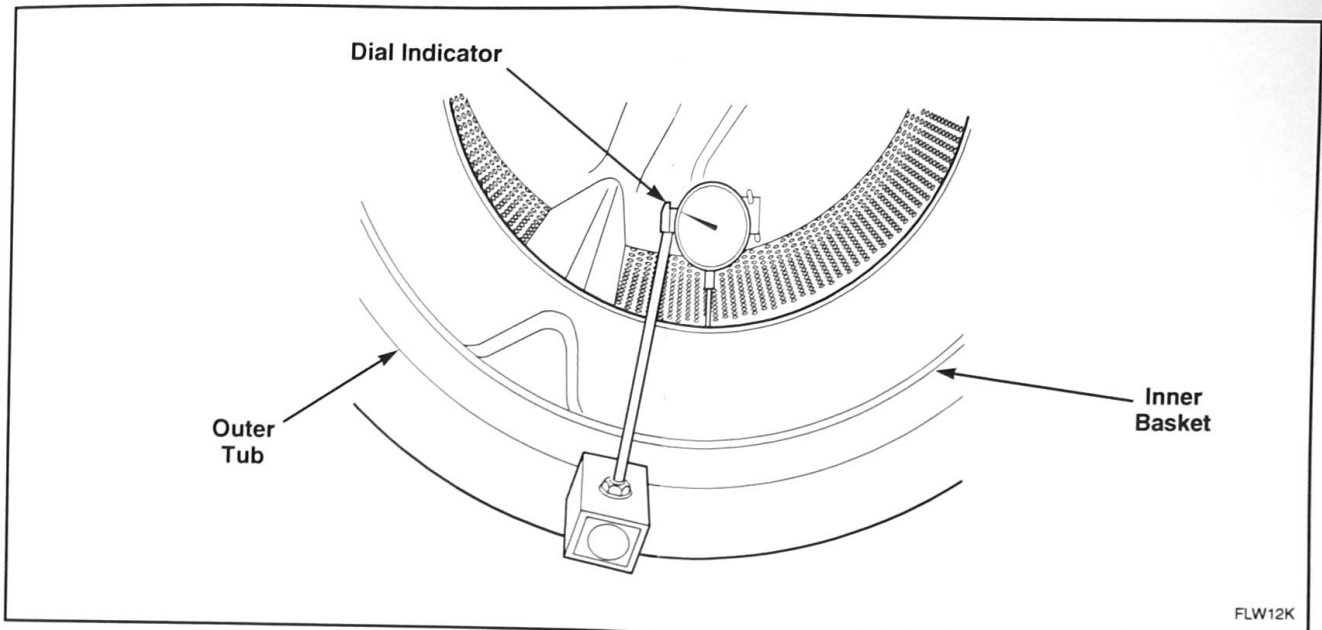

Figure 3
11. Check for concentricity/roundness of assembly. Use a magnetic base dial indicator to check that concentricity at the front curl is within .05 inch. Refer to *Figure 3*. If concentricity is not within .05 inch, remove assembly from washer and